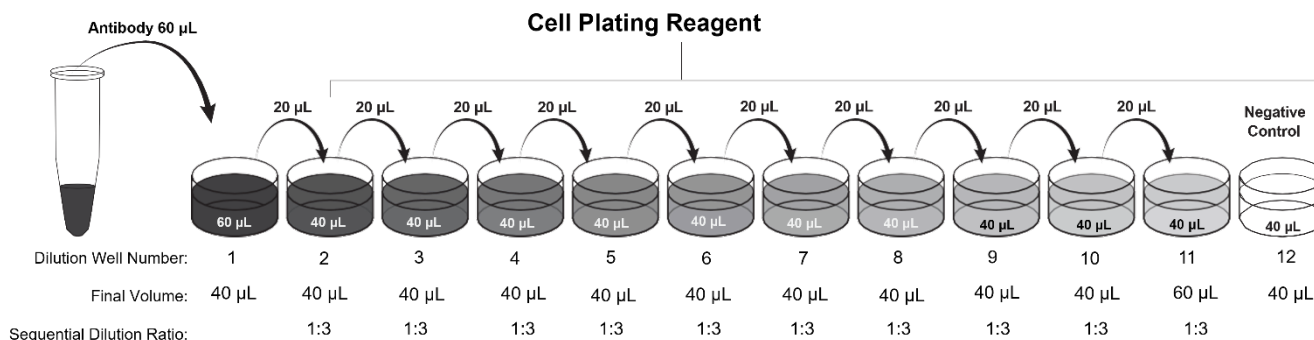

Figure 10. Compound serial dilutions – Anti-Ligand Antibody
1. Prepare an 11-point series of 3-fold dilutions of the anti-ligand antibody serial dilution in row A of a separate dilution plate or vials (not provided in the kit) using Cell Plating Reagent, following the workflow below (Figure 10).
- d. Add 60 μ L of the highest concentration of antibody to well number 1 (Figure 10).